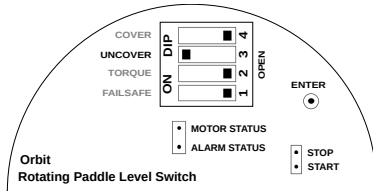

Figure 14: Uncover Delay Switch Position
2. Set the UNCOVER switch to CLOSE (Opposite of OPEN for DIP switch) position as shown in Figure 14.